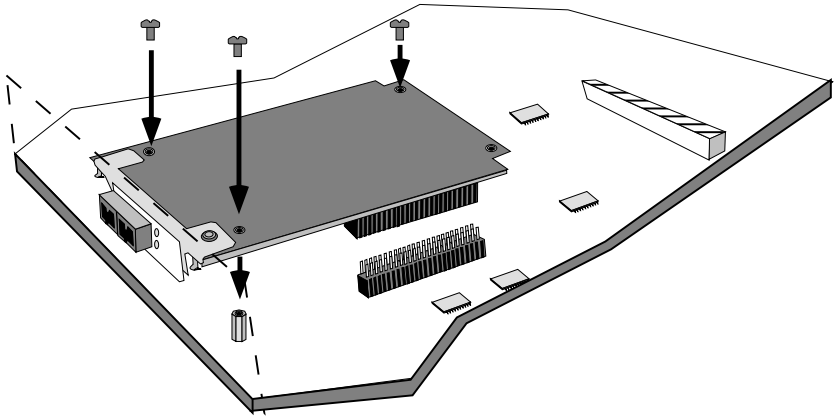

Figure 3-2. Installing an FEIM
4. Install the FEPIM as shown in Figure 3-2. Ensure that the rear connector is seated firmly before tightening the three mounting screws.